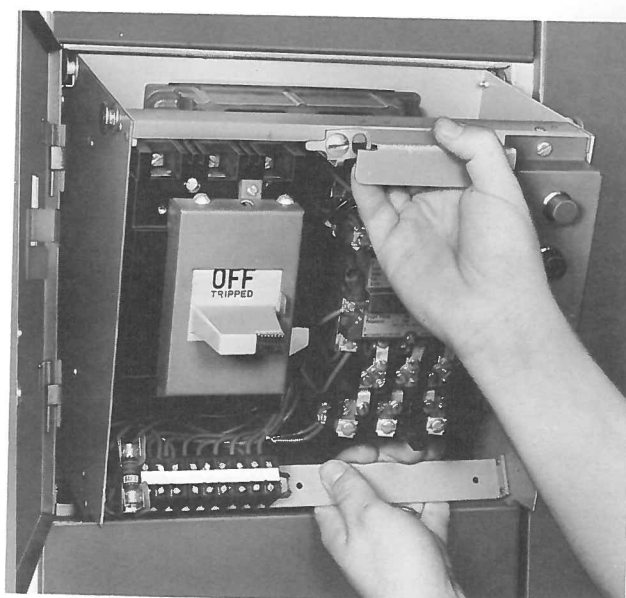

Fig. 19 Unit Removal
9. Pull unit forward until the unit guides are completely out of guide rails (Figure 19).